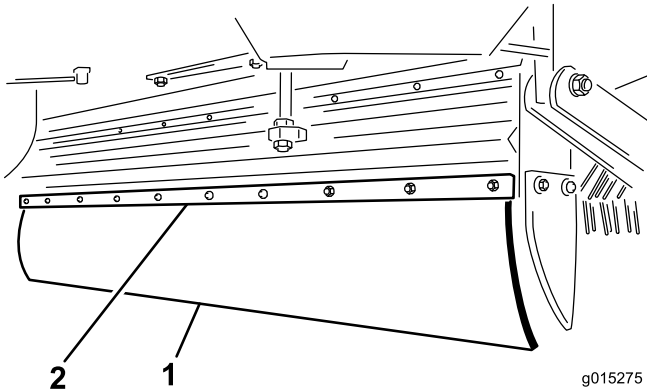

Figure 25
1. Remove the 10 bolts, washers, and nuts on the mounting and flap retainer (Figure 25).